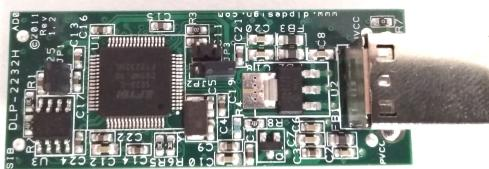

Figure 3: DLP2232H jumpers configuration
2. The DLP2232H module must be configured with jumpers JP1 to JP3 as it is shown in Figure 3. JP1 plugged, JP2 and JP3 unplugged.